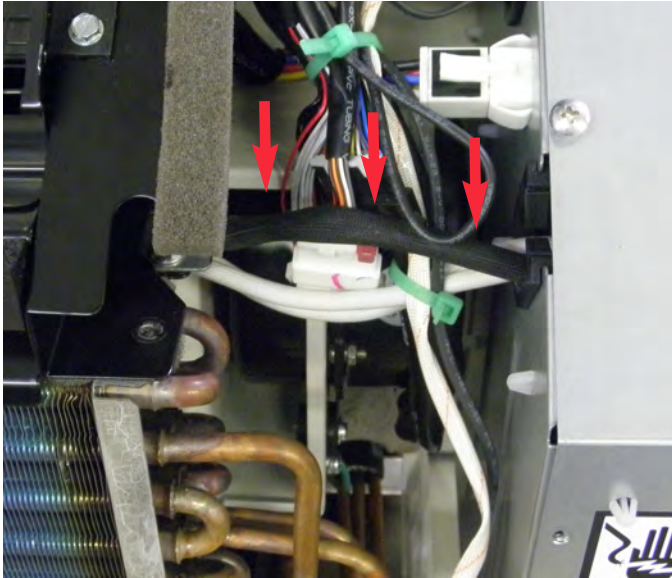

Figure 18
- Ensure PHI power cord is routed as shown (see figure 18)